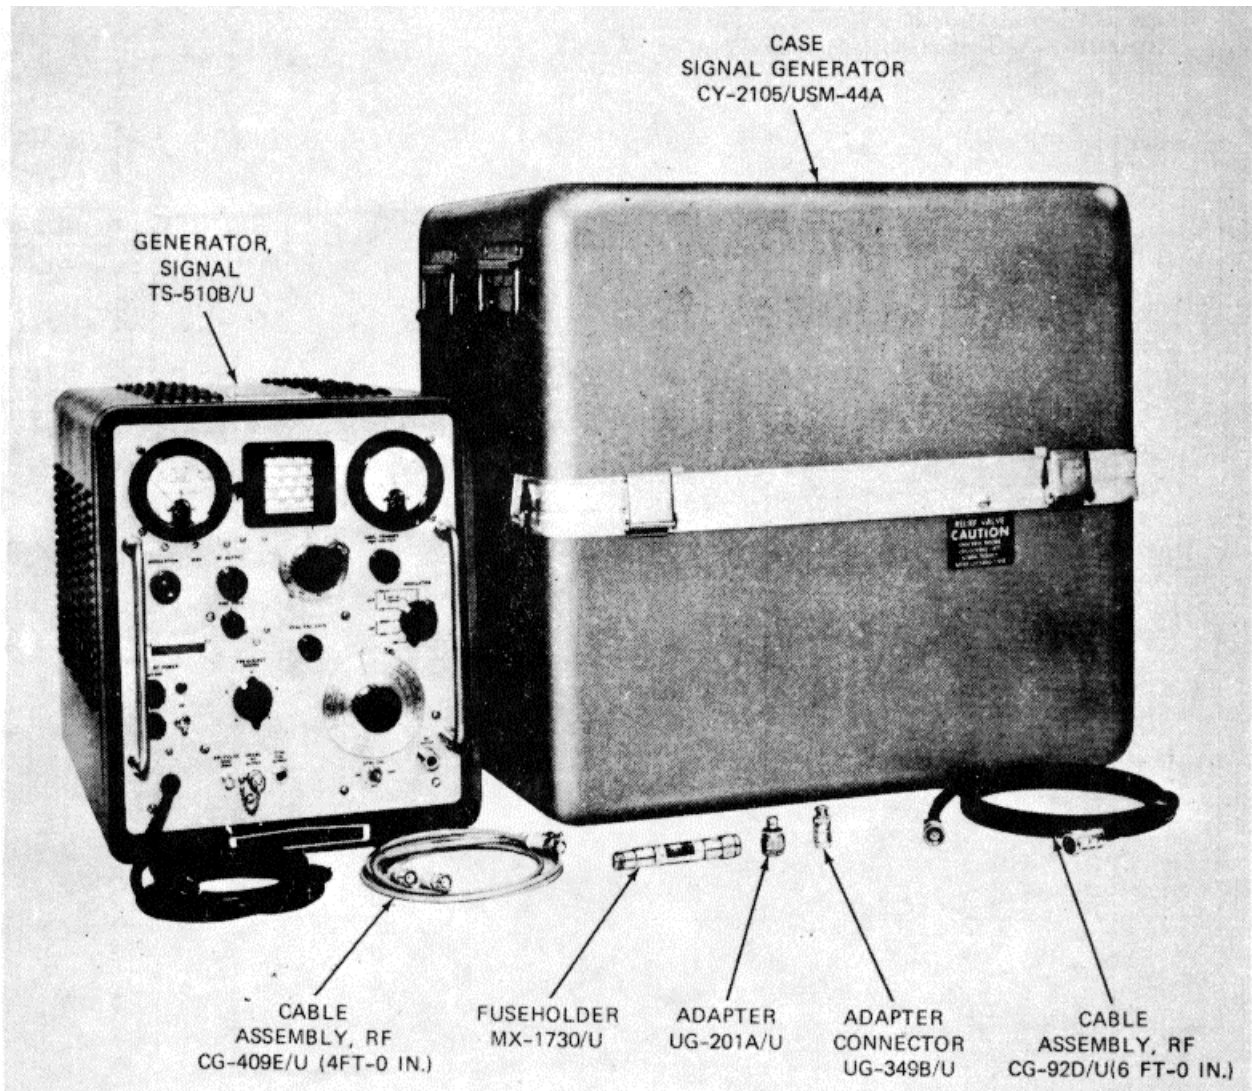

Figure 1-1. Generator, Signal AN/USM-44B (less running spares)
a. This manual describes Generator, Signal AN/USM-44B (fig. 1-1) and includes instructions for installation, operation, and operator, organization direct support, and general support maintenance.
Generator, Signal TS-510B/U (fig. 1-1) is the only major unit supplied as part of the AN/USM-44B. It is housed in a metal cabinet designed for mobile, bench-
The minor assemblies of AN/USM-44B are included in figure 1-1. Special functions of the minor assemblies are listed below.